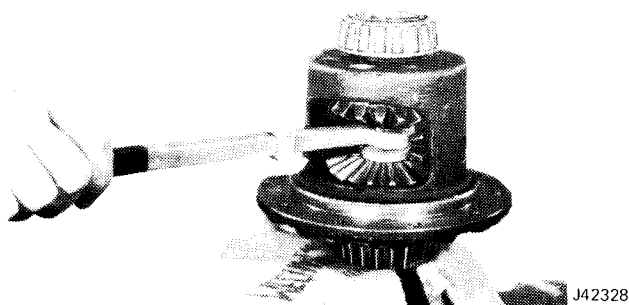

Fig. 10-68 Installing Gear Rotating Tool
(12) Position pawl end of gear rotating tool on step plate (fig. 10-68).
(13) Insert forcing screw through top of case and thread into gear rotating tool.